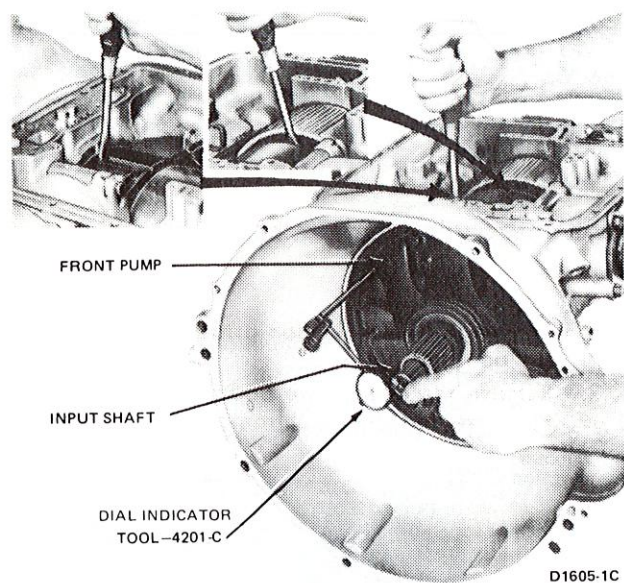

FIG. 13 Checking Gear Train End Play
4. Attach a dial indicator to the front pump as shown in Fig. 13. Install Tool T61L-7657-B in the extension housing to center the output shaft.
5. Pry the gear train to the rear of the case and at the same time, press the input shaft inward until it bottoms, (Fig. 13). Set the dial indicator to read zero.
6. Pry the gear train forward, (Fig. 13), and note the amount of gear train end play on the dial indicator. Record the end play to facilitate assembling the transmission. Remove the dial indicator from the pump and the tool from the extension housing.
28. Install Tool 4201-C at the seventh pump mounting bolt (Fig. 13) and check the transmission end play as in steps 4, 5 and 6 of Disassembly. (See specifications at the end of this Section.) Remove the tool.